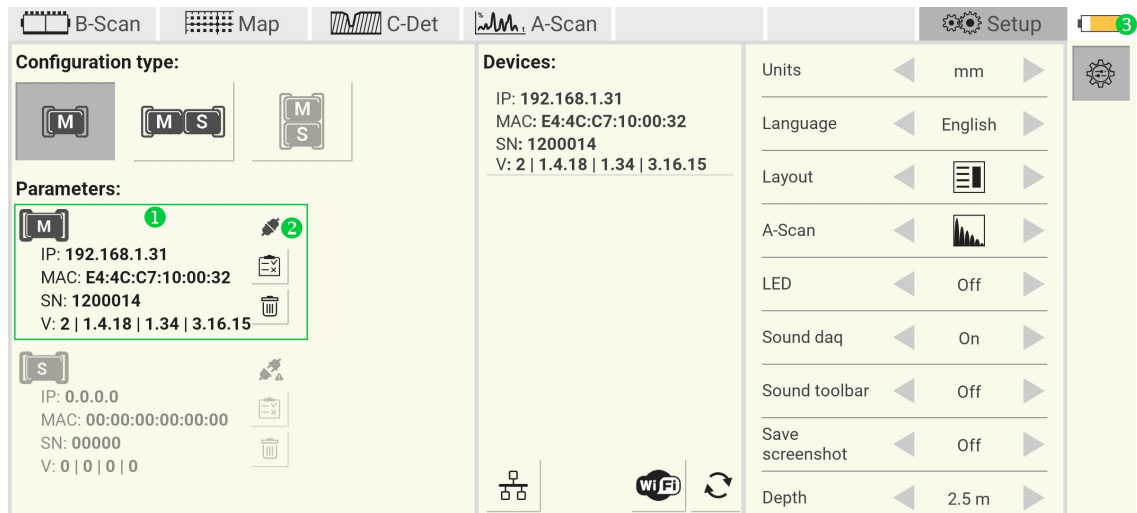

Figure 21: A1040 MIRA 3D connection
The indicator ② changes from  to . The battery indicator ③ changes its status from disconnected  to power, Figure 21.